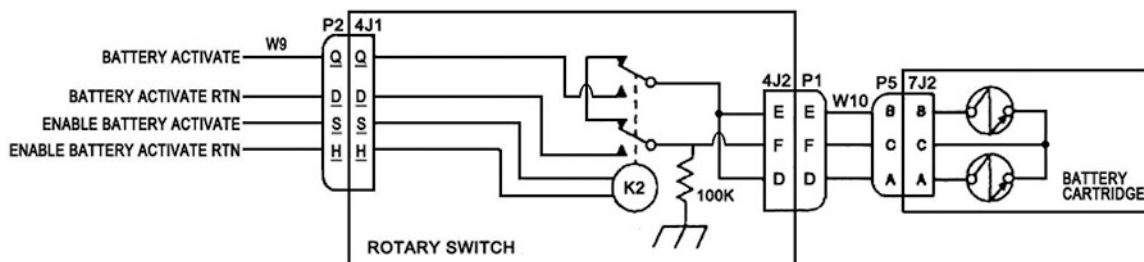

Figure 3-10. Schematic diagram example (AGM-86B battery signals).
Let's take a look at the schematic diagram example for battery signals (fig. 3-10) following the *enable battery activate* signal circuit. It begins with W9P2S connected to the rotary switch at 4J1S, then it energizes relay (K) 2, and is finally routed to the return path. Energizing K2 means the relay switches close (changes to the down position). This allows the *battery activate* signal to travel past K2, out the rotary switch at 4J2E and D, and to the battery at 7J2B and A. This activates the battery. The signal begins its return path leaving the battery at 7J2C.
5. Interpret where the *enable battery activate return* signal goes next after activating K2 using Figure 3-10, Schematic diagram example (AGM-86B battery signals).